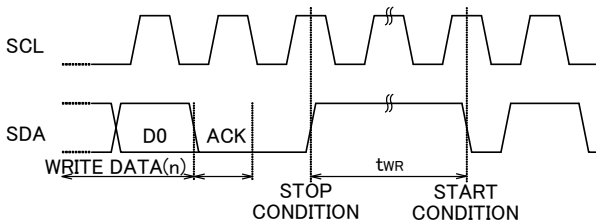

Fig.1-(c) Write Cycle Timing
- For WRITE operation, WP must be "Low" from the rising edge of the clock (which takes in D0 of first byte) until the end of tWR. (See Fig.1-(d)) During this period, WRITE operation can be canceled by setting WP "High". (See Fig.1-(e))